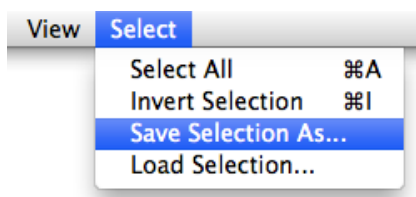

Figure 54: In the *Select* menu selection can be stored and loaded. This can be helpful during the *Merge Once* and *Refine Once* runs.
10. Select the images for which the phase origin could be determined and the images which were used for the 2D reference. The selection can be saved via *Save Selection As...* in the *Select* menu. In this menu you can then later also load the stored selections as you can see in Figure 54.